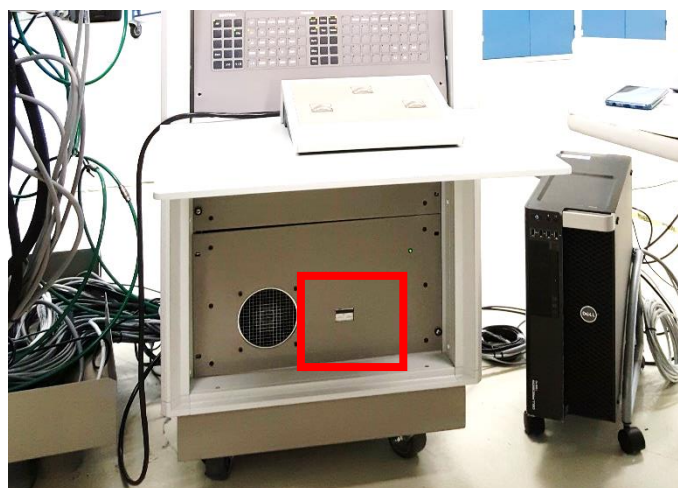

Figure 436: switch of the magnet chassis on cabinet B
- Put the magnetic field to zero in the Tuning window and turn off the magnet chassis (Figure 436).